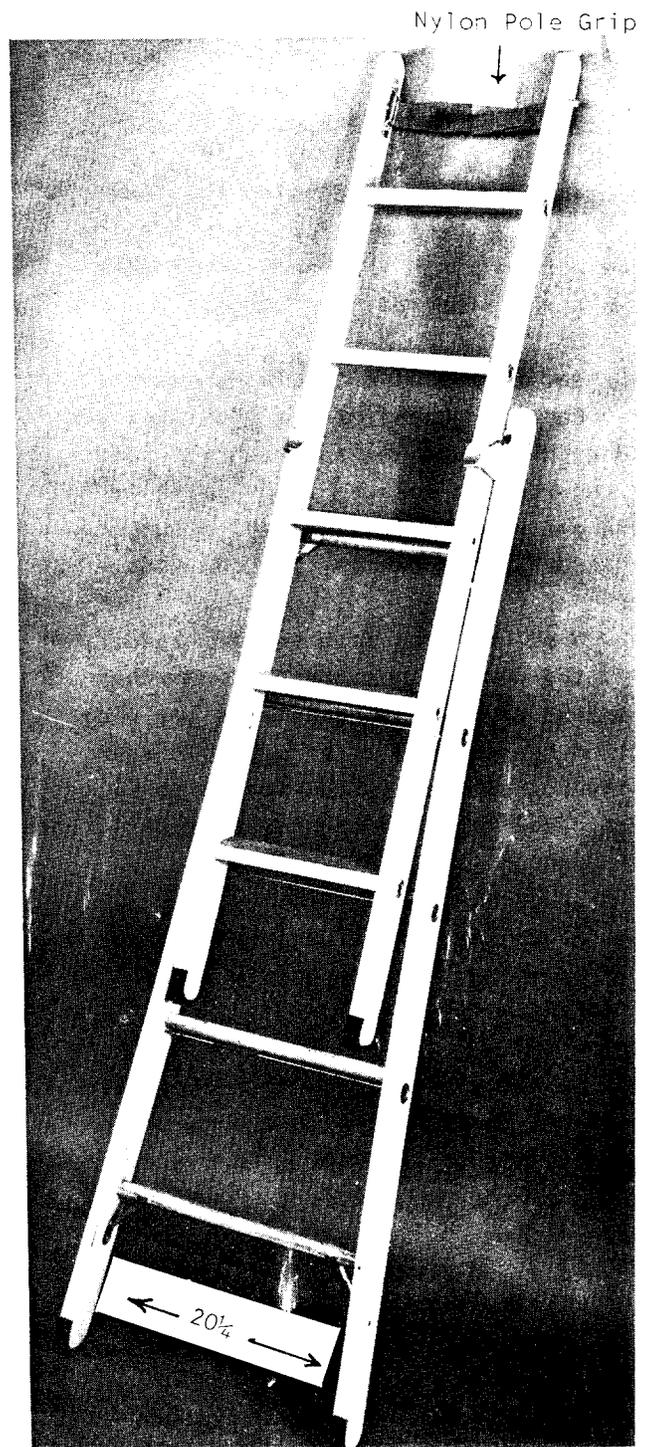

Figure 1 Extended Position
2.01 To use as an extension ladder, start from a closed or folded position, slide the narrow section up to the desired height, and place the two bottom hooks over the appropriate rung of the wide section. A steel safety stop is attached to maintain correct over-lap. (See Figure 1)